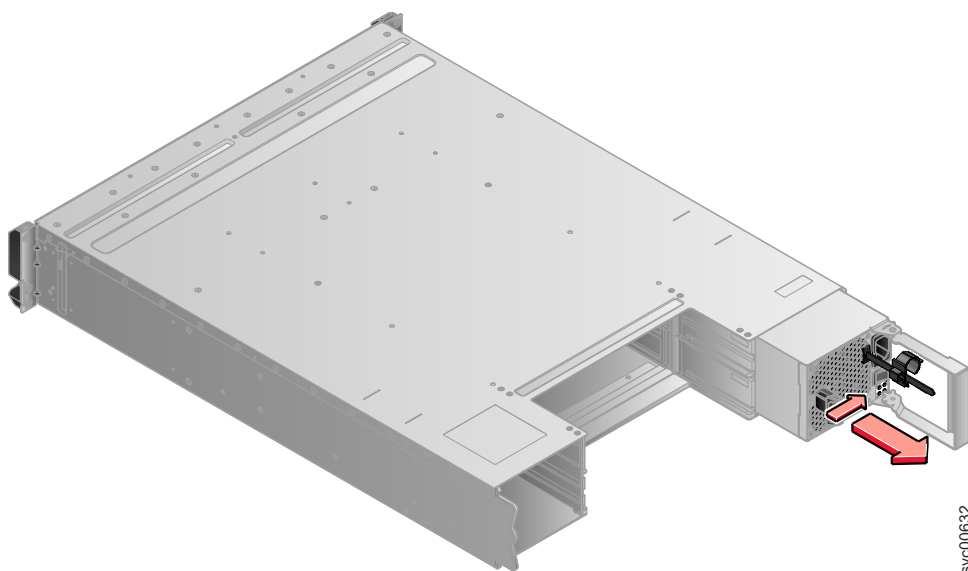

Figure 54. Using the handle to remove a power supply unit
- b. Grip the handle to pull the power supply out of the enclosure as shown in Figure 54.